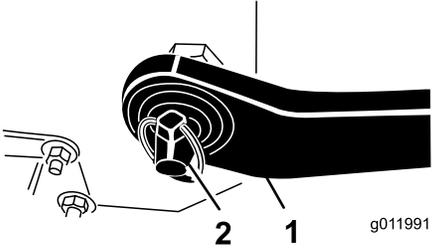

Figure 3
4. Insert the right and left, lower link arms onto the hitch pins (Figure 3).
5. Secure the lower link arms to the hitch pins with the lynch pins (Figure 3).